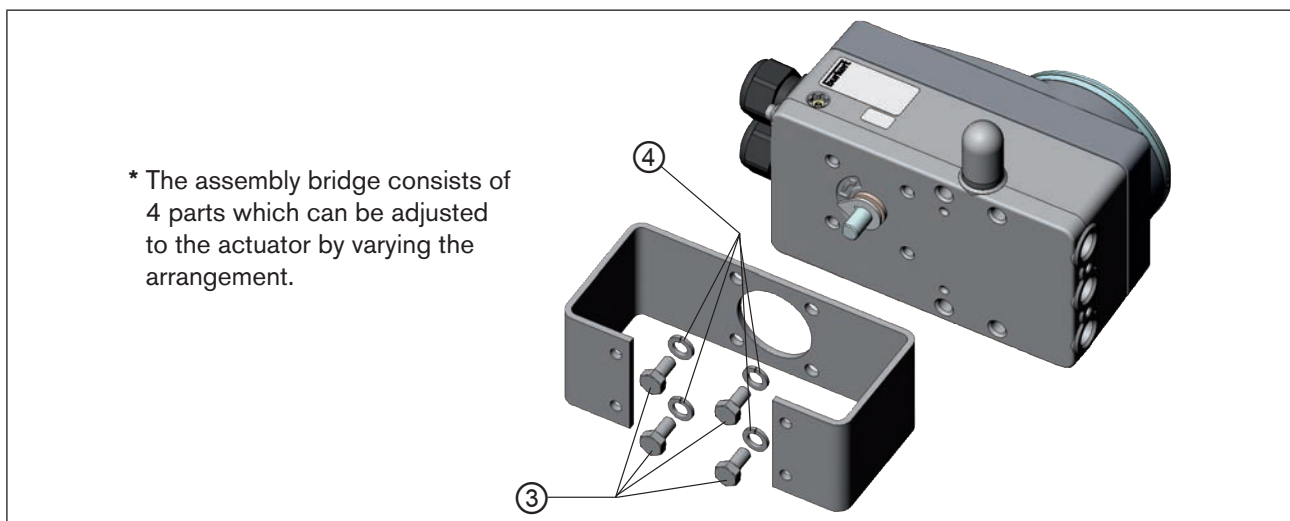

Figure 19: Attach assembly bridge (schematic representation)
→ Attach the assembly bridge to the Type 8792/8793 using 4 cheese-head screws ③ and circlips ④ (see "Figure 19").